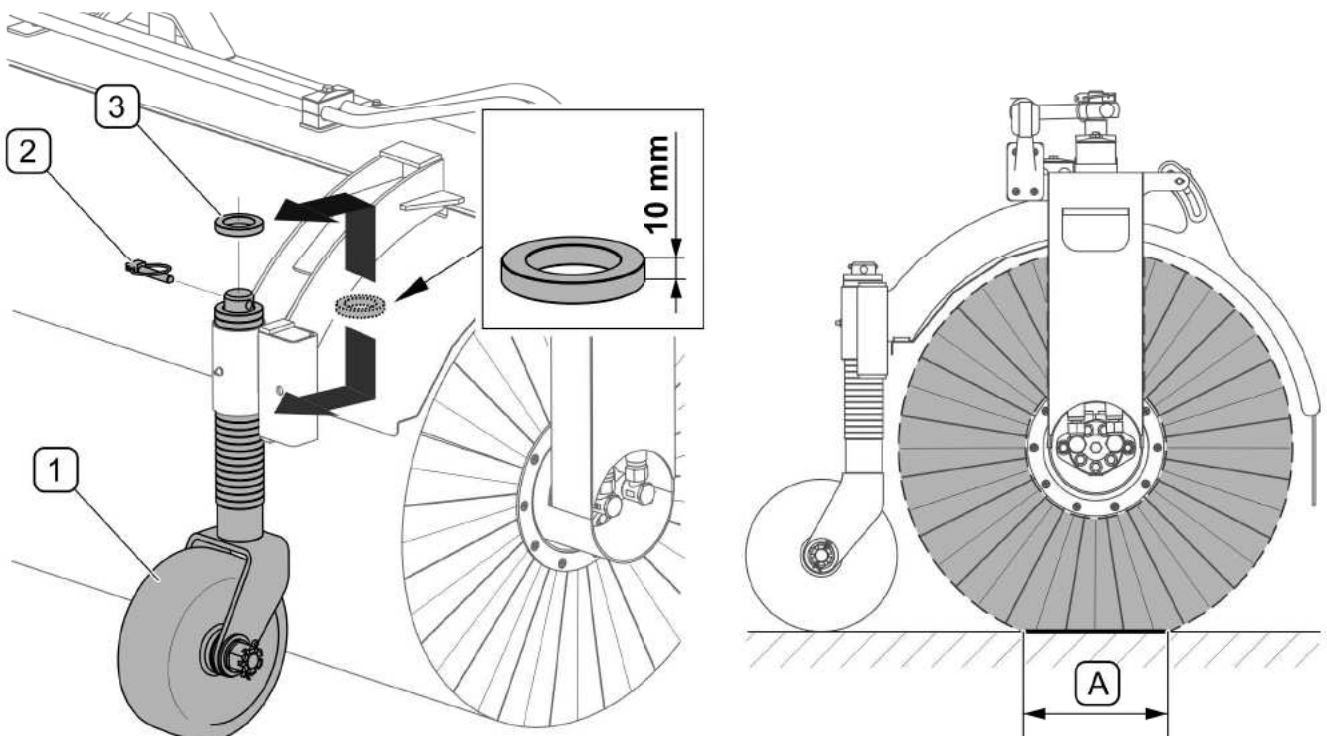

FIG. 4.15 Working height adjustment
Working height is set (FIG. 4.15) by proper setting of the wheel height. Wheel height is adjusted with the use of 10 mm-high spacer washers (3). In order to lift wheel (1), take out cotter pin (2) and relocate spacer washers above the wheel bracket and secure with cotter pin (2). Right and left wheel heights should be the same. When setting the brush, take its wear into account. Sweeping brush ground contact surface should be in the range from 60 do 120 mm (FIG. 4.15). After adjustment, lower the sweeper on the wheels and check the width of the sweeper ground contact surface, adjust again if necessary.